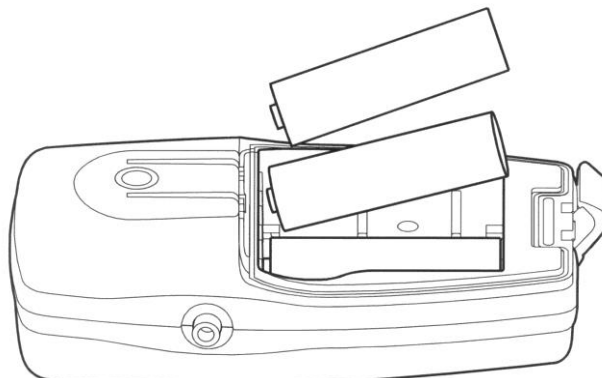

Figure 2-6: Installing Batteries
3. Install 3 “AA” alkaline batteries into the holder as shown in Figure 2-6. Each battery has its own slot. To insure proper polarity, place the bottom (flat) or negative end of the battery in the end of the holder marked “-”. Place the top (button) or positive end of the battery in the end of the holder marked “+”. Do this for each battery.